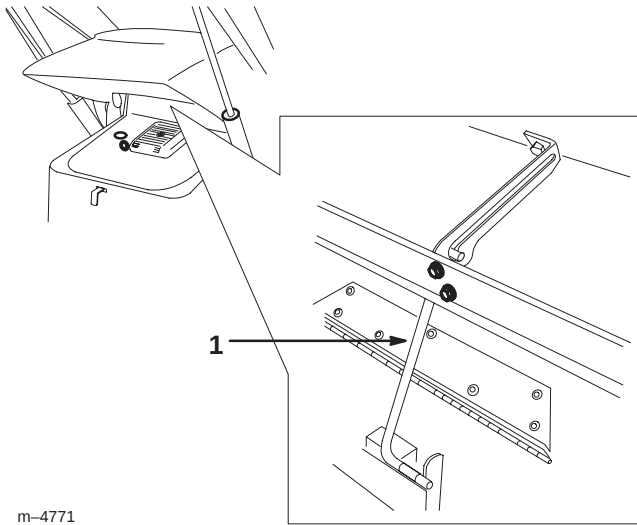

Figure 20
1. Pull up on the bar securing the hood in the open position and lower the hood (Fig. 20).